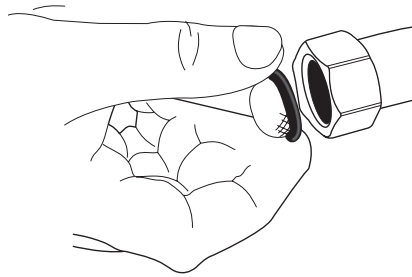

Figure 6-3
**NOTE:** Convex side faces out. See Figure 6-3.